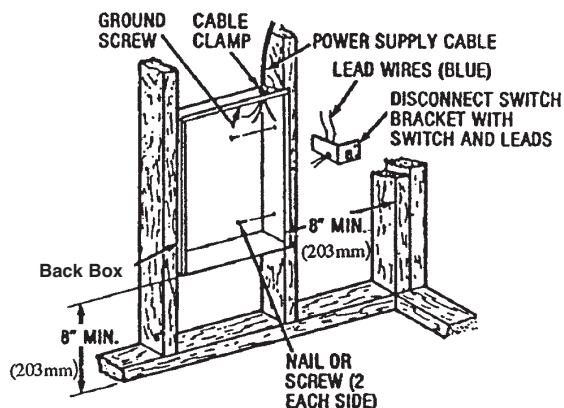

Fig. 1: Locating Back Box in New Construction
#### 1. Mounting Back Box (See Figure 1).
- c. Secure the back box in position with wood screws or nails as shown in Figure 1.
#### 2. Power Supply Wiring (See Figure 1)